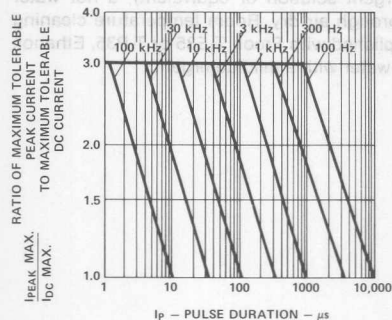

Figure 5. Maximum Tolerable Peak Current vs. Pulse Duration. ( $I_{DC}$  MAX as per MAX Ratings).
- See Figure 5 to establish pulsed operating conditions.